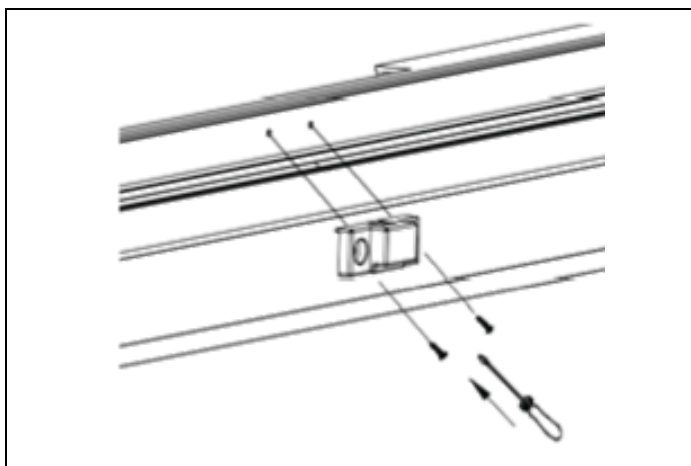

Fig. 6
- 6) Fix the door bracket to the custom door panel in advance using ST3.9x16 wood screws, following the dimensions shown in Fig. 6.